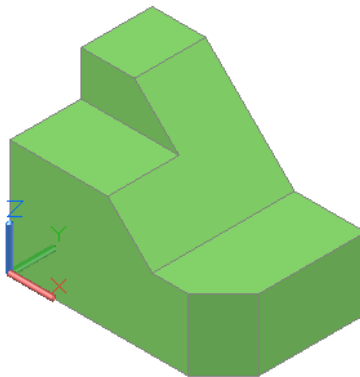

Figure Step 1
Step 1 Open the drawing: AutoCAD 3D Workalong 10-1. (Figure Step 1)